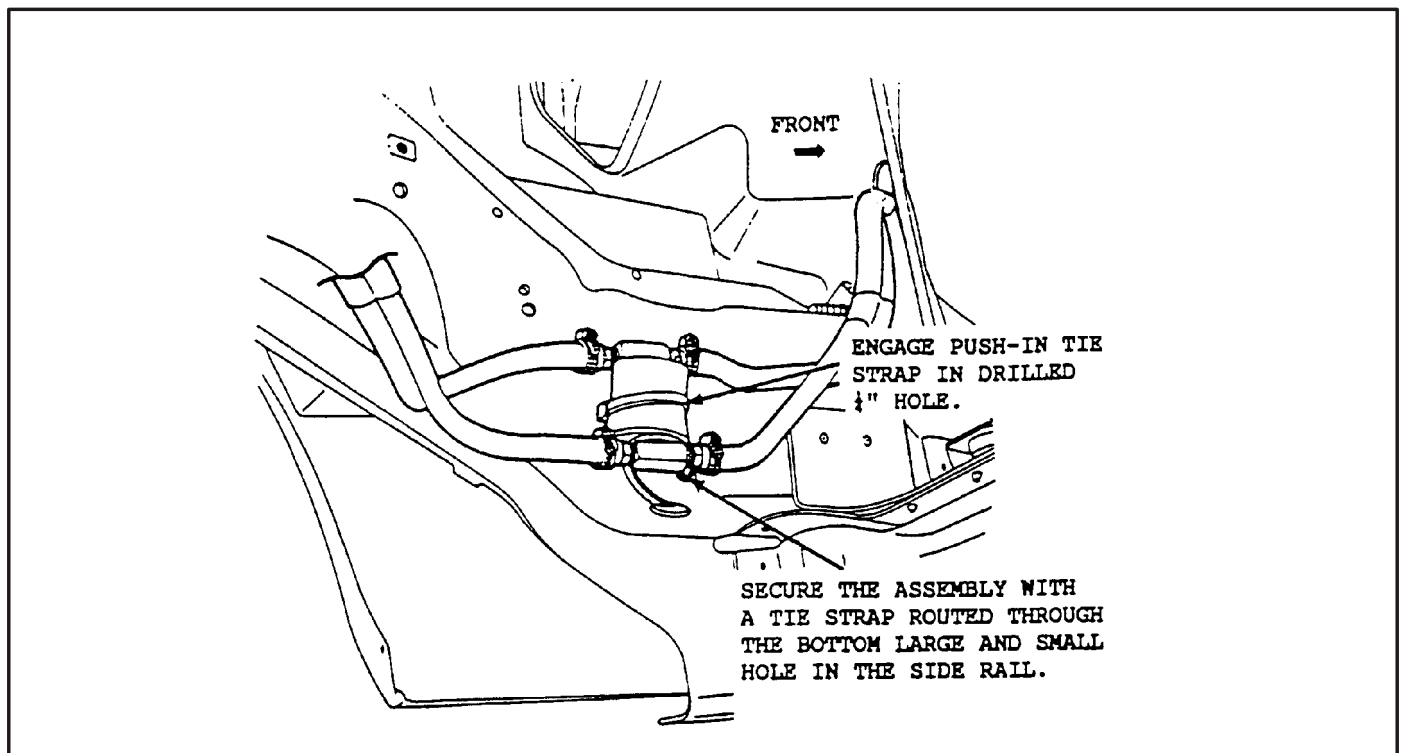

Figure 4
9. Engage the "Push-in" tie strap into the drilled 1/4 inch hole (See Figure 4)
10. The bypass valve assembly **MUST** be positioned vertically (See Figure 4).
12. Install the other supplied tie strap to secure the bypass valve assembly to the frame rail, as shown in Figure 4, and cut off excess tie strap.